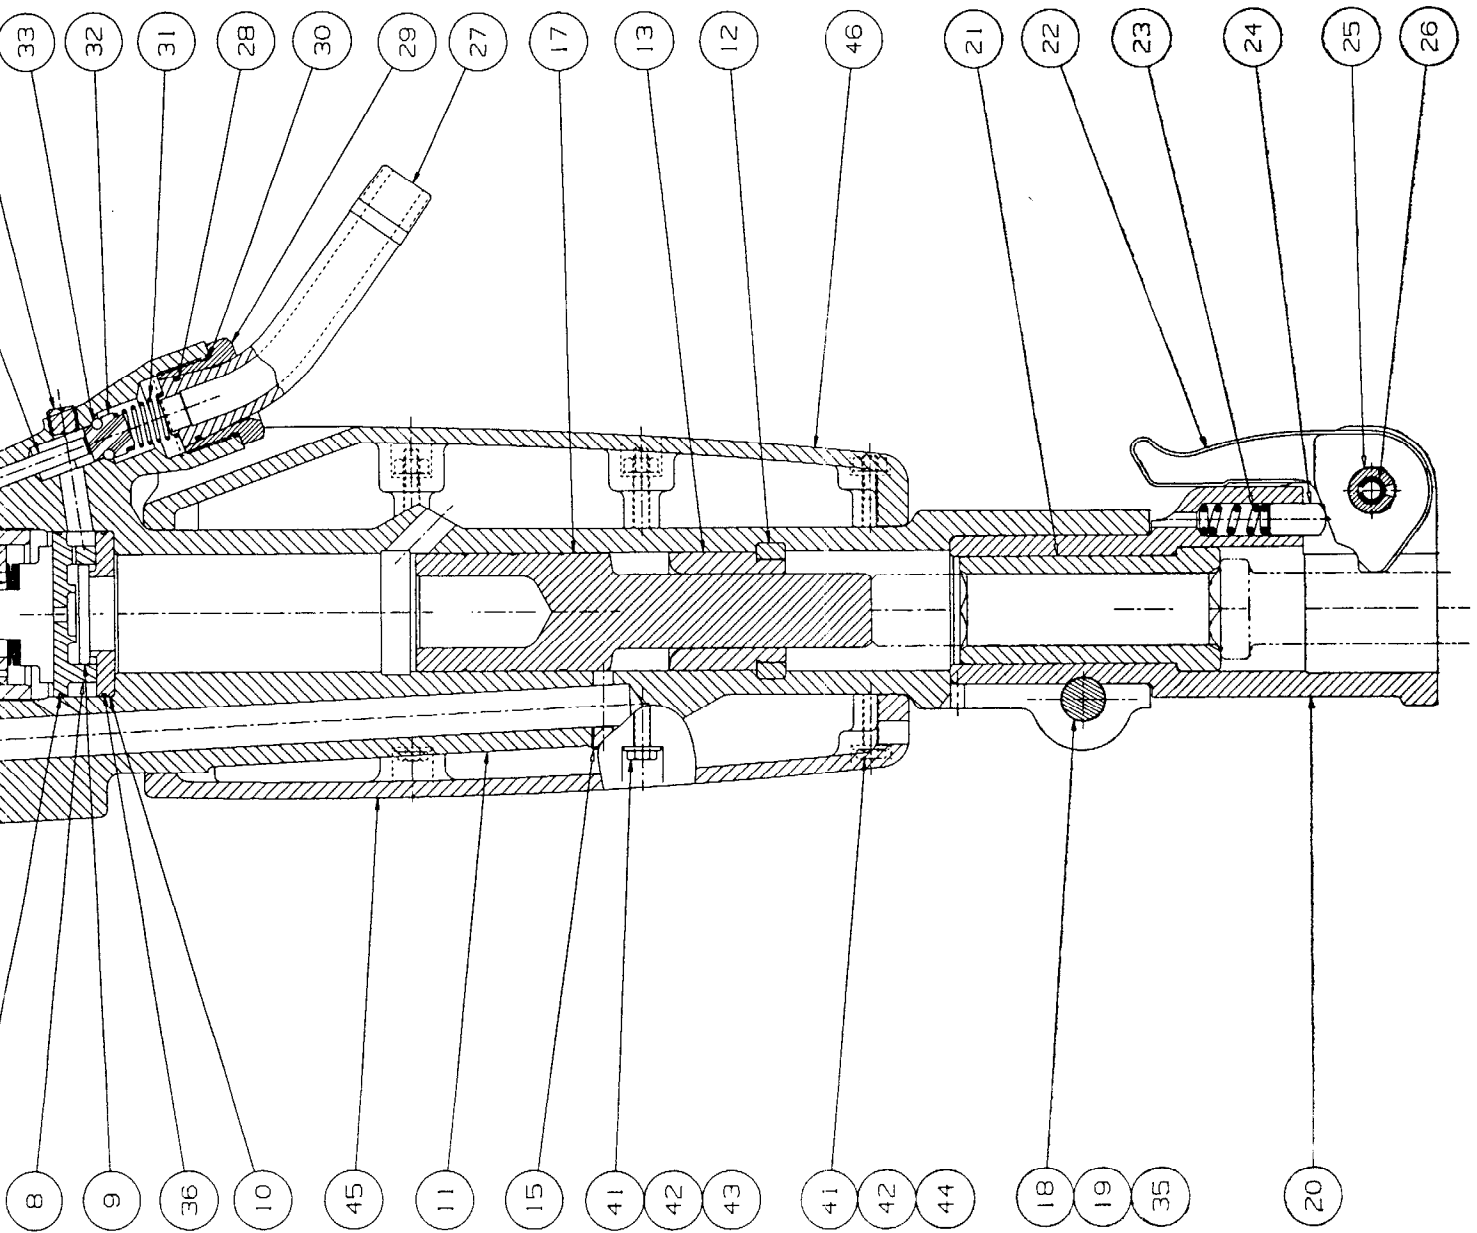

Figure 1. Typical Paving Breaker – Sectional Illustrated
3. DISASSEMBLY. (Figure 1)
a. If equipped with a muffler, remove screws (43, 44), washers (41) and nuts (42); then remove muffler halves (45, 46).
3. Insert the fabricated tool (short end first) in the sleeve end of the fronthead (20), and with a hydraulic press, drive out the fronthead bushing (21).
4. INSPECTION AND REPAIR. (Figure 1, Page 3)
- b. All parts in the housing (11), including the valve chest (8) and valve cover (10) must be examined, and all dust or dirt particles removed.
- c. Check the valve (9) for cracks or chipping. If damaged, replace it.
- d. Replace the piston (17) when a .007 in. (.178mm) feeler gauge can be inserted between the piston and the housing bore.
- e. Check the throttle valve (32) and o-ring (33) for wear, and make certain that the throttle pin (34) is free to slide in the handle.
5. REASSEMBLY. (Figure 1, Page 3)